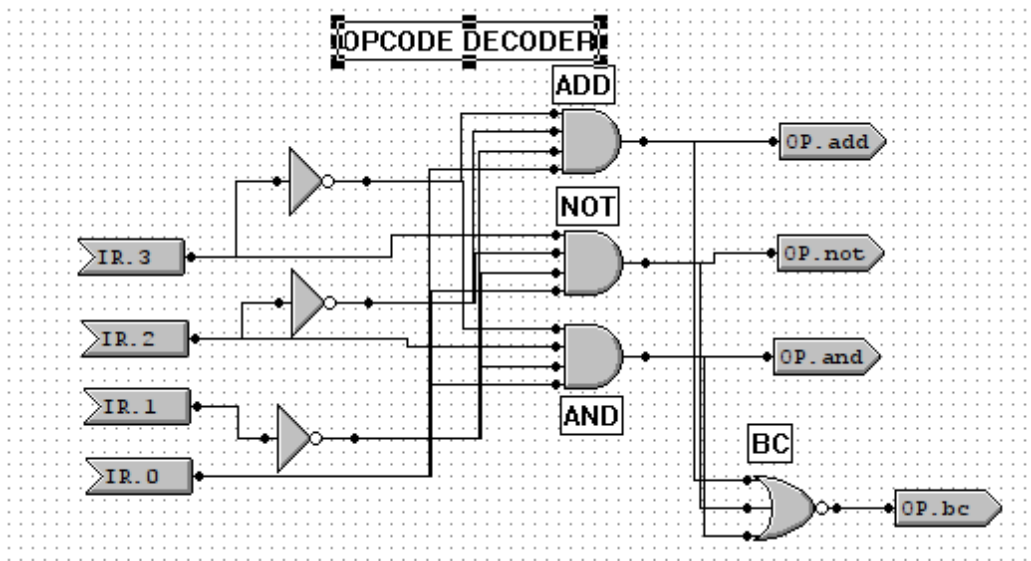

Figure 8: OpCode Decoder
Normally, with a 4-bit opcode, a much more complicated decoder is needed than the one I have in my project. The reason mine is so simple is because we are only using 3 of the possible 16 opcodes, so I only really need to test for those 3 cases. If those three cases all fail, then I know the opcode was invalid and I can set the bad code (BC) bit to let the user know this information. The decoder can be seen in figure 8, it takes in 4 bits (OP.0 through OP.3) from the instruction register (IR) and turns high one of 4 output lines. The 4 output lines are [AND, ADD, NOT, BC], and have a 1-to-1 mapping to a specific opcode, allowing us to no longer